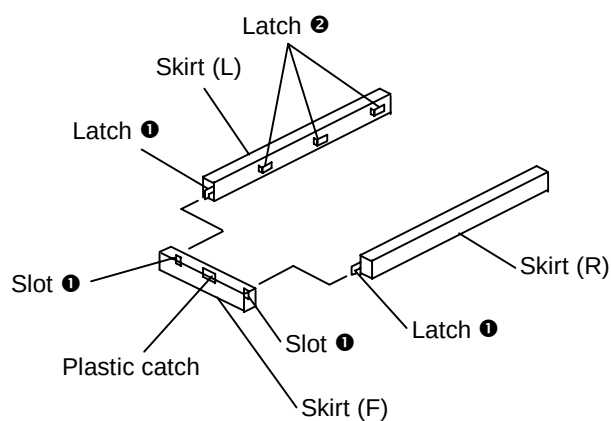

Figure 3.2.6 Assembly of Skirts
- ④ Insert latches **1** of skirts (R) and (L) into the slots **1** of skirt (F). (See Figure 3.2.6.)